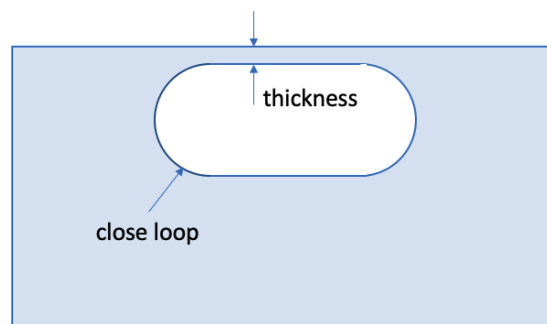

Figure 7. Close Loop Example
- **Chamfer Chains** - A chamfer surface can be identified as a narrow strip where its angle to neighboring surfaces is about 45 degrees as shown in Figure 7. Chamfers often occur as a chain or connected set of surfaces and are grouped